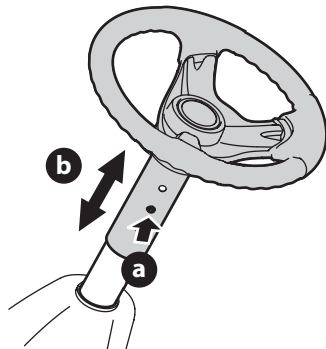

Figure 6
2. Push the button (a) on the steering column and raise or lower the steering wheel (b) to the desired position (Figure 6).
NOTE: Once the desired position is achieved, lift up and down on the steering wheel to make sure it locks into place and the button (a) on the steering column releases into a locked position. Do not operate the riding mower unless the steering column is in a locked position (Figure 6).